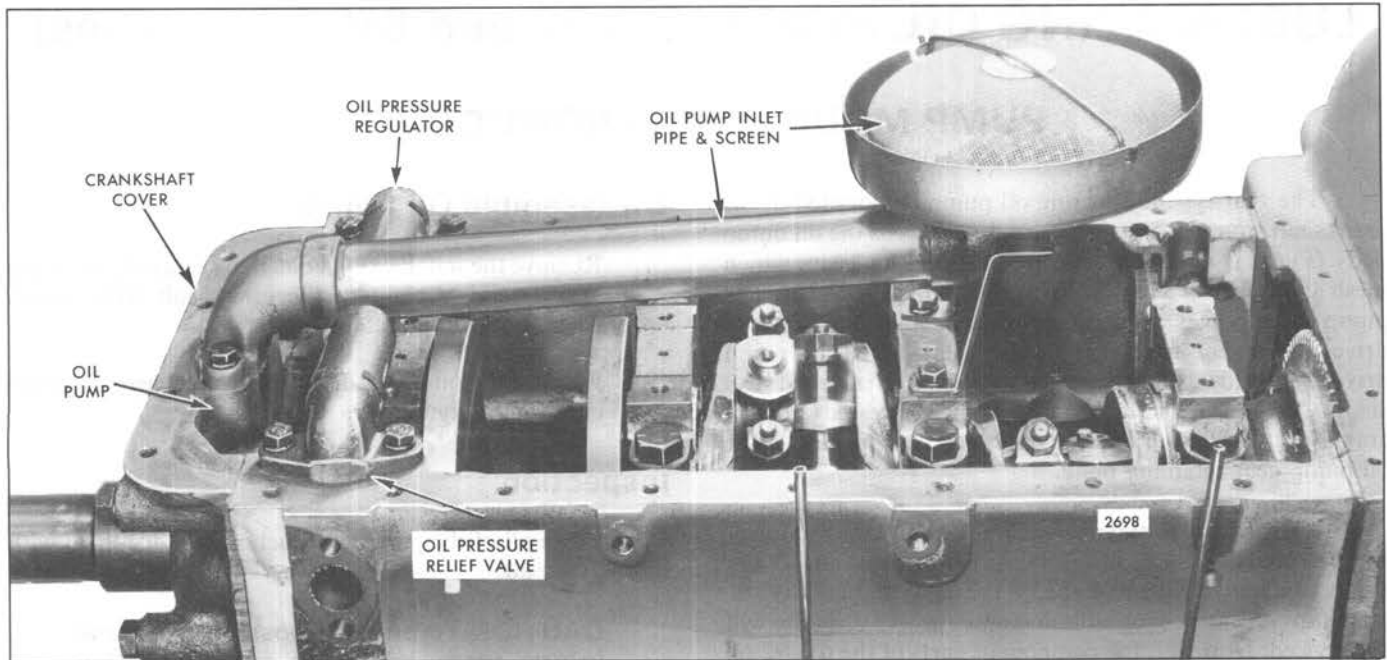

Fig. 1 - Typical Lubricating Oil Pump Mounting (6V-92 or 8V-92 Engine)
2. Refer to Fig. 1 and install the oil inlet pipe and screen assembly. Use a new gasket between the oil inlet pipe and the crankshaft front cover.